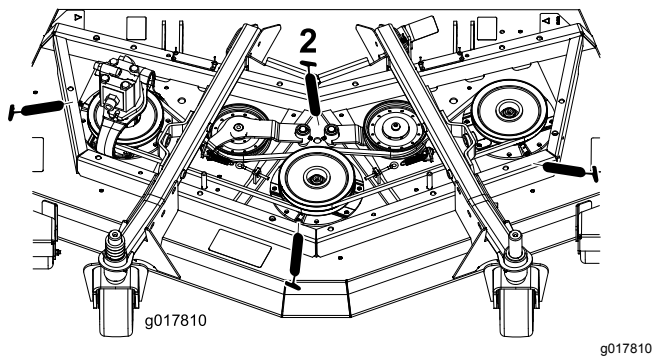

Figure 62
- Spindle shaft bearings (3) (located under the pulley) (Figure 62)
- Idler arm pivot bushings (2) (Figure 62)